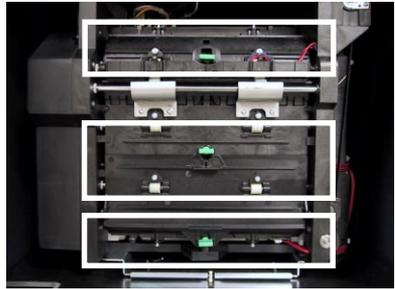
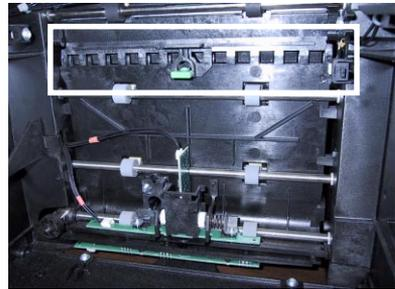

Fig. 7-4. Location of upper, middle and lower access doors.
Fig. 7-5. Location of inner access door.
3. Locate the lower, middle and upper access doors, as shown in Figure 7-4. These doors allow you to check for jammed notes at key points in the feed path. Another door is located on the inside of the dispenser, and is accessible when the note and reject cassettes have been removed, as shown in Figure 7-5.